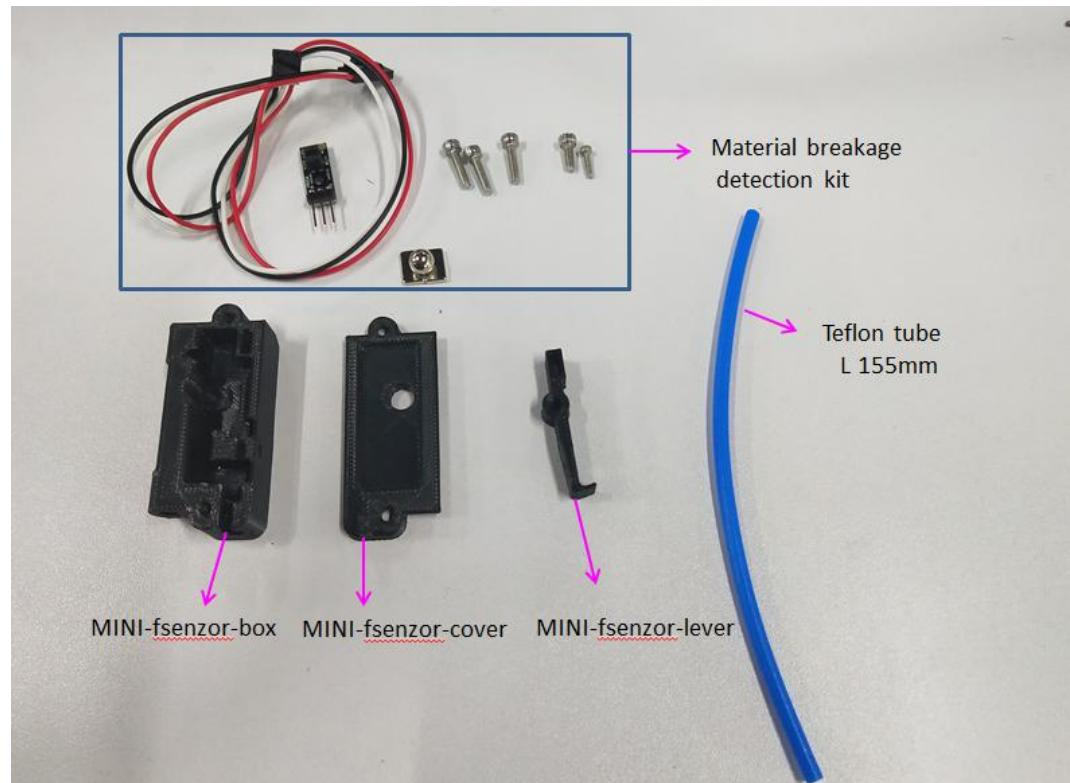

Figure 4.3.1
**Step 4-3-1:** As shown in Figure 4.3.1, prepare the materials and check whether the quantity of materials is correct, and prepare for the next installation.